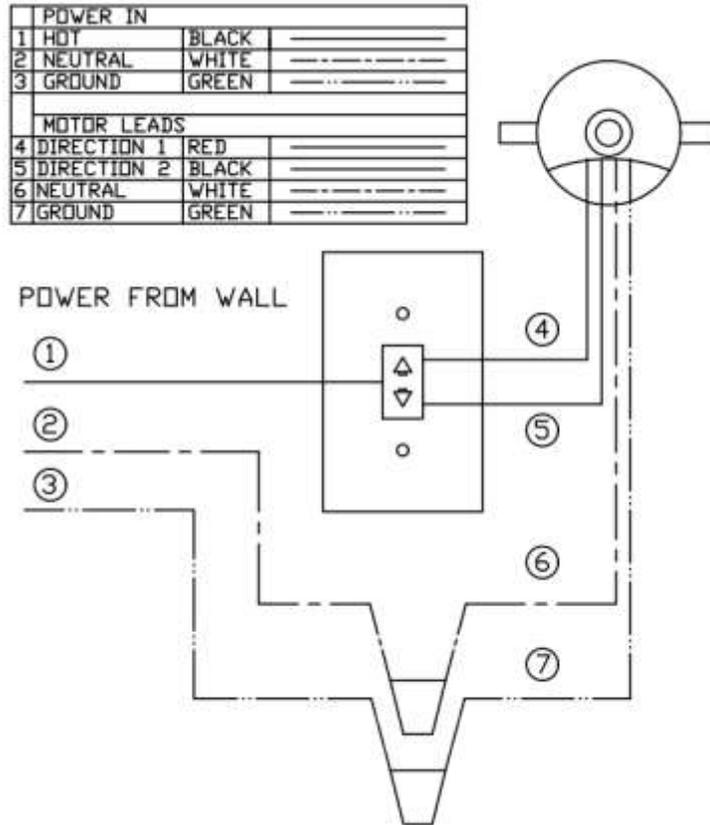

FIGURE 3
9. Mount the control station approximately 4 feet above the floor. Wire the motor and incoming 120 VAC +/- 5% line to the control station. (See Fig. 3).